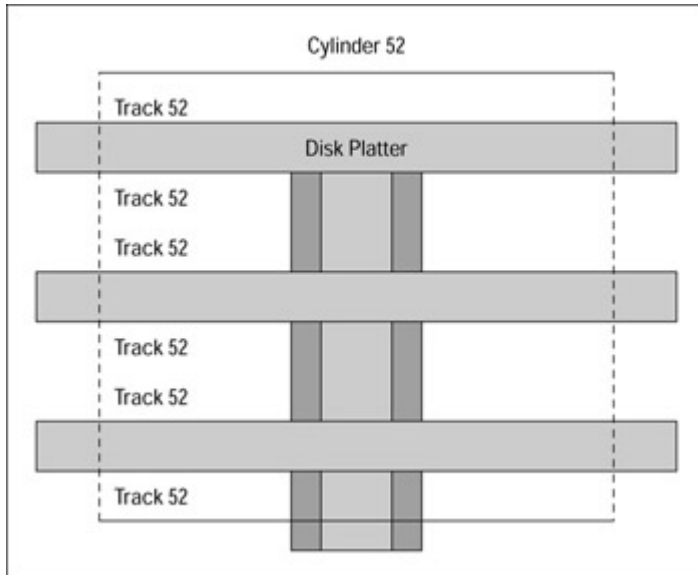

Figure 9-4: A cylinder logically groups the tracks with the same number from each disk.
- 1 **Cylinders:** This addressable feature is unique to hard drives. A cylinder is a logical grouping of the same track on each disk surface in a disk unit. All of the tracks with the same track number on all of the hard drive's surfaces form a cylinder. For example, if a hard drive has four platters, it has eight surfaces and eight track 52s, as shown in Figure 9-4 . All eight of the track 52s make up cylinder 52. This feature allows data to be written to each platter on the same track, eliminating the need to move the read/write heads.